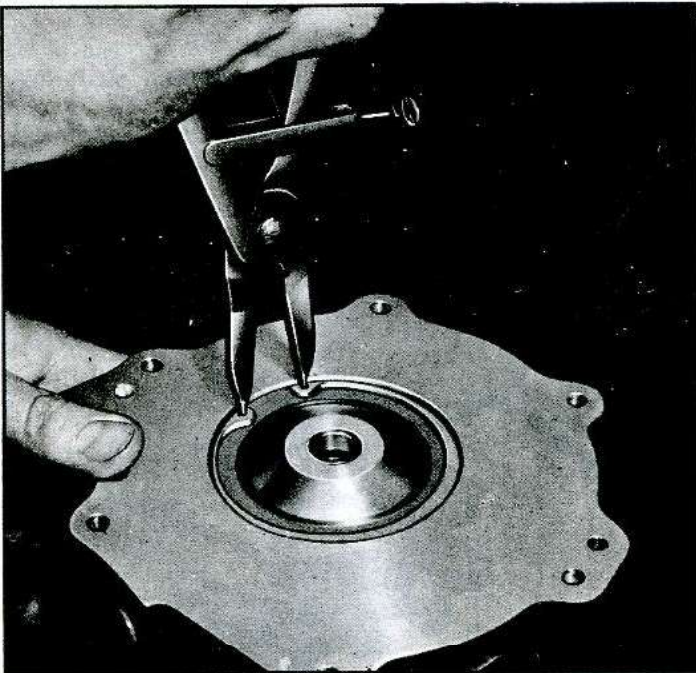

Fig. 42—Oil Seal Retainer Ring Removal
7. Remove the oil seal retaining ring from bearing housing with snap ring pliers (fig. 42).